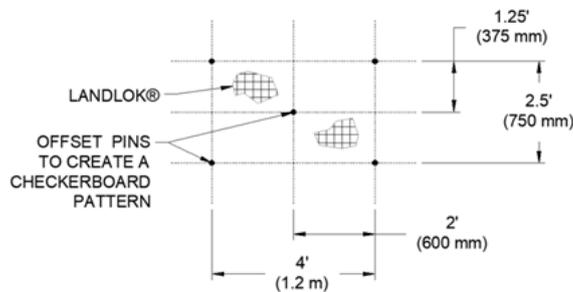
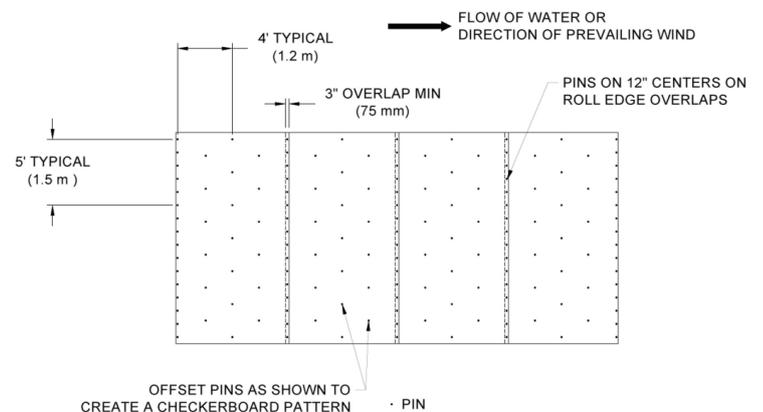

Figure 12: Example Pin Pattern
Figure 13: Example Edge Overlap Pattern
6. Place the next TRM panel by laying the **PROPEX** Landlok TRM roll so that the roll end points towards the COS trench (Figure 9), with a 3 in (75 mm) overlap created at adjacent panel edge locations. Ensure that adjacent panel edges maintain a minimum 3 in (75 mm) overlap during **PROPEX** Landlok TRM laydown. (Figure 13)
10. Secure TRM panels in place using pins across the channel surface according to the project’s engineered design. Pin placement should reflect a staggered checkerboard pattern across the channel surface for best results (Figure 12 and Figure 13).
- Roll edges shall be overlapped a minimum of 3 in (75 mm) and a maximum of 6 in (150 mm) with pins placed on 12 in (300 mm) centers (Figure 13).
13. Continue to work down the length of the channel by repeating steps 6 through 9 overlapping each adjacent TRM panel by 3 in (75 mm) (Figure 13). The last TRM panel should terminate on the Terminal Channel (TC) trench with pins on 12 in (300 mm) centers